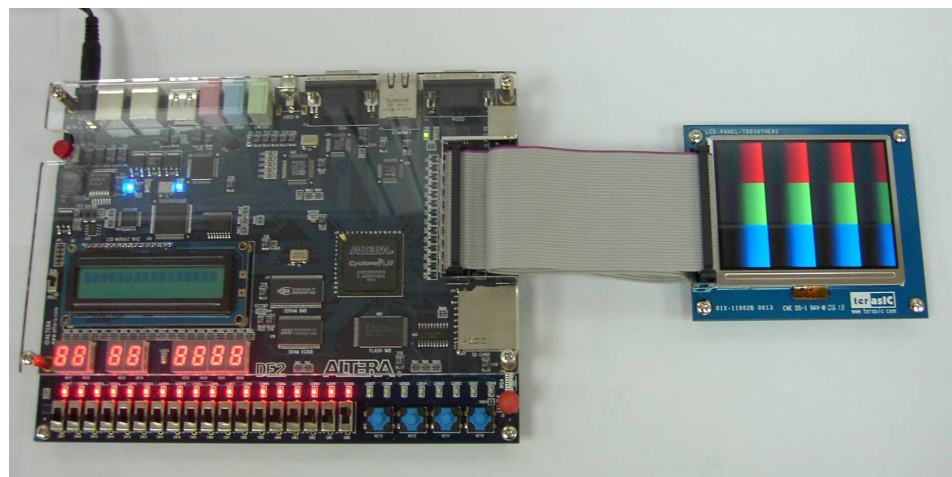

Figure 3.3. The connection setup for the pattern generator demo
1. Ensure the connection is made correctly as shown in Figure 3.3. Make sure the IDE cable is connected to JP1 of the DE2 board.